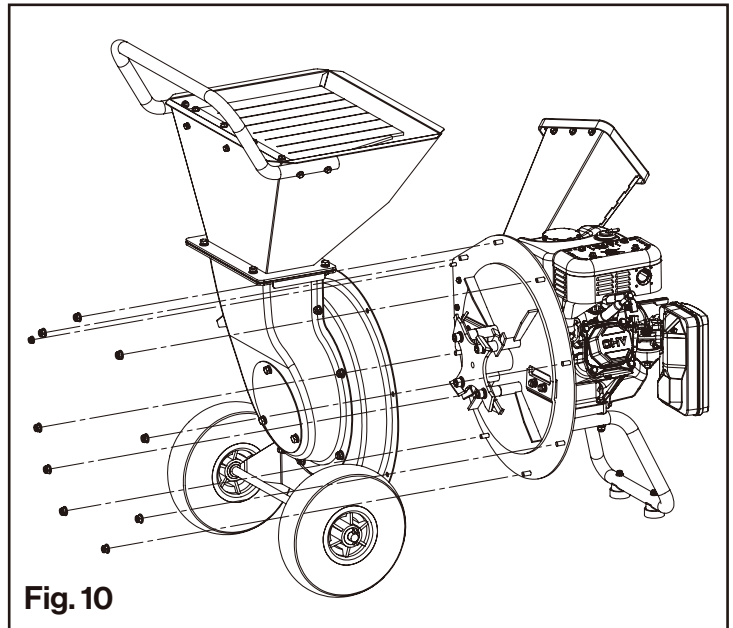

Fig. 10
3. Detach the rotor housing and hopper from the rotor plate. **(Fig.10)**
3. Detach the rotor housing and hopper from the rotor plate. (**Fig.10**)